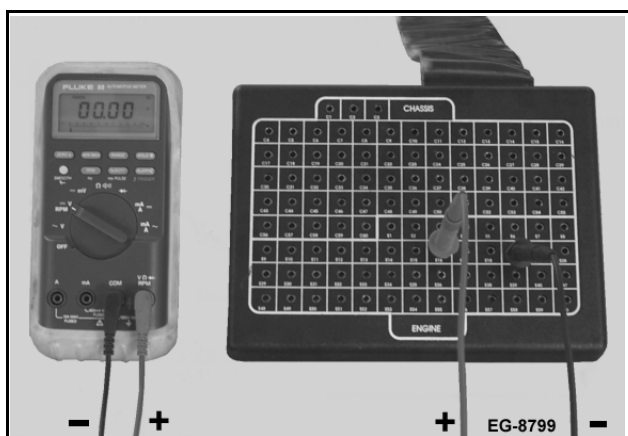

Figure 45 Measuring Injection Control Pressure Using Breakout Box (Alternate Method)
3. Connect the positive lead of the DMM to terminal 16 and the negative lead to terminal 19 (See Figure 45, page 82).